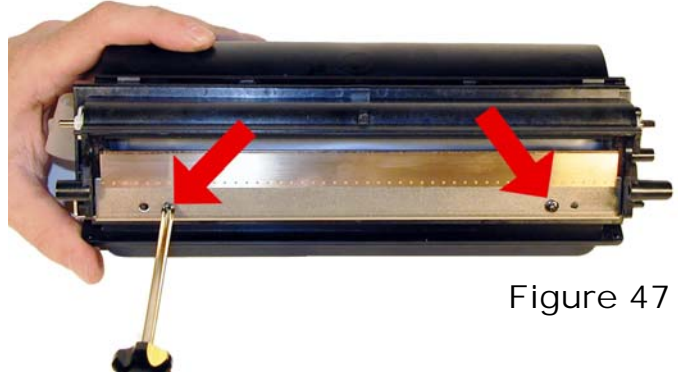

Figure 47
41) Clean or replace the doctor blade. Install with the two screws into the hopper. See **Figure 47**